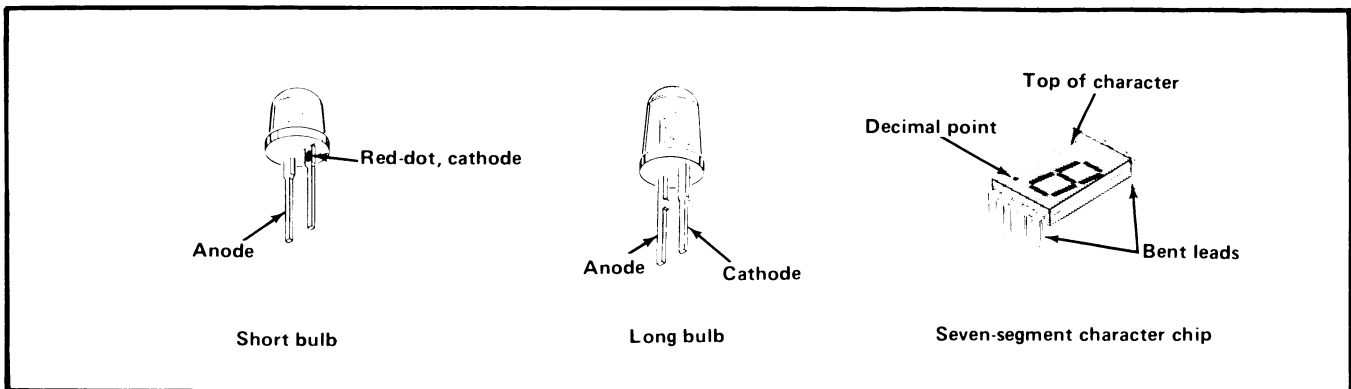

Fig. 3. Light-emitting diode (LED) lead orientation illustration.
**Light-Emitting Diodes.** LED's used as indicators are mounted on the sub-panels with plastic sleeve sockets similar to the incandescent bulb mountings or they are soldered directly to a sub-assembly and so mounted that they protrude through holes in the panel. In these cases, the sub-assembly must be exposed and the anode and cathode lead orientations carefully noted before unsoldering the defective LED. See Figure 3 for LED lead identifying information.